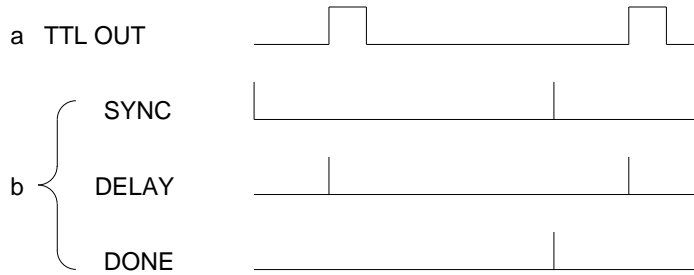

Figure 2.6.1 SYNC, DELAY, and DONE pattern
a. Activate power and depress the STRT/STOP switch. The pattern as shown in Figure 2.6.1 should result, and the RUN and OUTPUT LED's should light. NOTE: The Ground tip jack on the front panel should not have to be connected to the scope ground since this part of the circuit is not isolated and the scope ground will be connected by virtue of the ground prong on the power plugs. A solid signal should be seen on the scope. If the signal appears to have a floating ground (eg. Signal is not stable, acts like it is not referenced to anything) then there could be a problem with the ground path and the unit should be powered down and all ground connections should be evaluated. Connect channel 2 of the scope to the SYNC output, then the DELAY output, then the DONE output and note the patterns as in Figure 2.6.1.